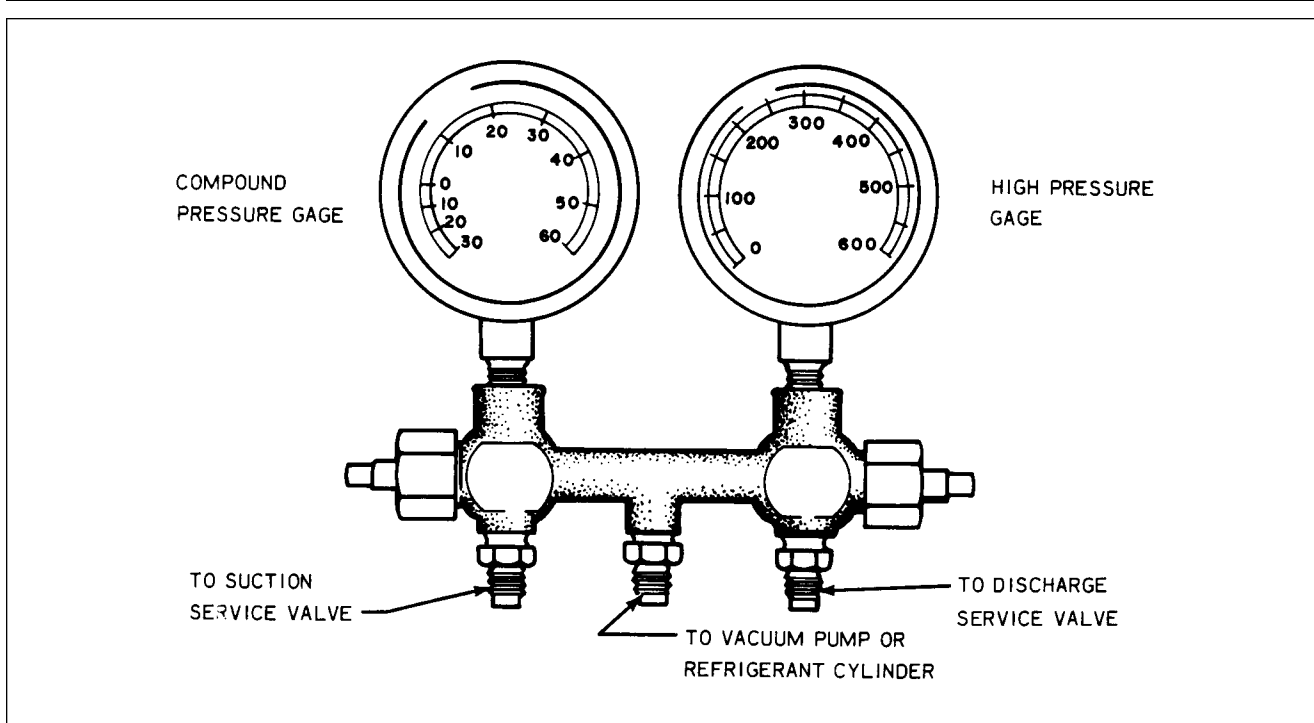

Figure 14-3. Test Gauge and Manifold Set
14-8. TEST GAUGE AND MANIFOLD SET. The proper testing and diagnosis of the air conditioning system require that a manifold gauge set be attached into the system. This set consists of two gauges mounted to a manifold. One gauge is a high pressure gauge used in the discharge side of the system. The other is a low pressure gauge used in the suction side of the system. The manifold is a device having fittings for both gauges and connection hoses with provisions for controlling the flow of refrigerant through the manifold. See Figures 14-3 and 14-4.
Cracking the hand valve, in the counterclockwise direction, opens the system to the middle service port of the manifold set. This is desirable only when it is necessary to let refrigerant out or into the system. Refer to Figures 14-3 and 14-4.
- c. The high and low manifold hand valves should be in the closed position. (Refer to Figure 14-3 and 14-4.)